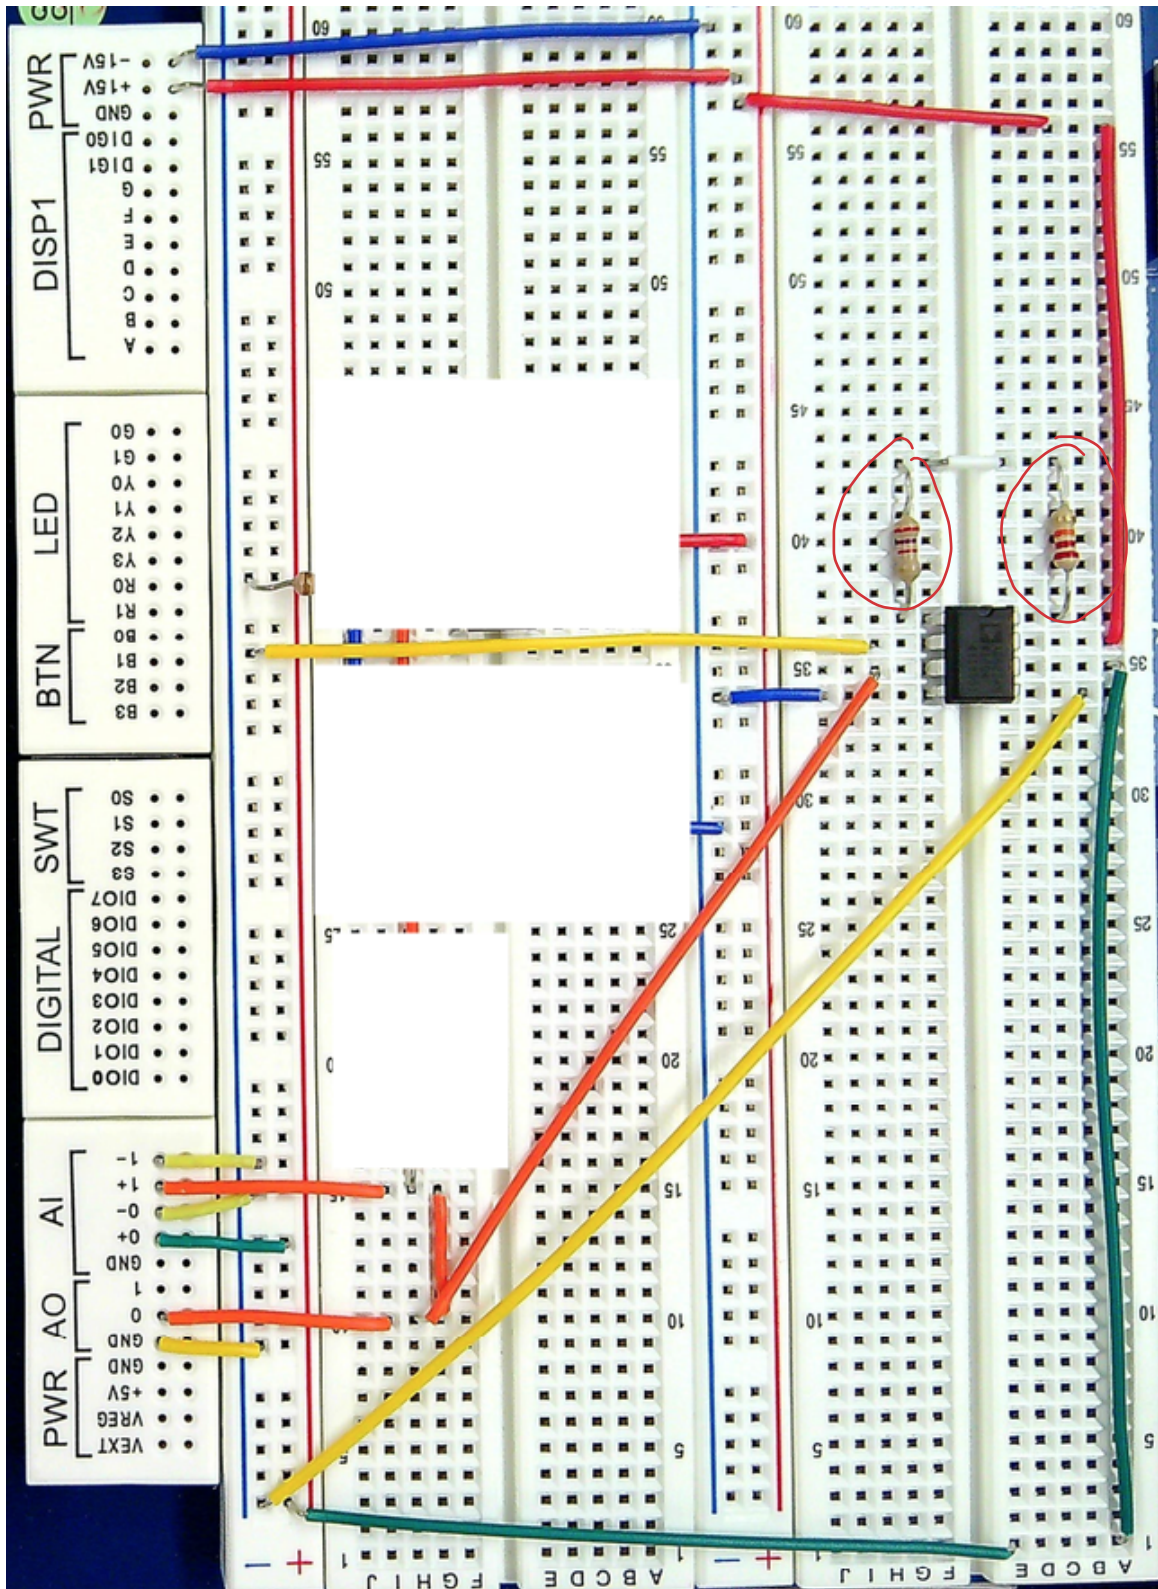

Figure 2: Sample wiring diagram for AD622 instrument amplifier.
- Sample breadboard circuit is shown in Figure 2.